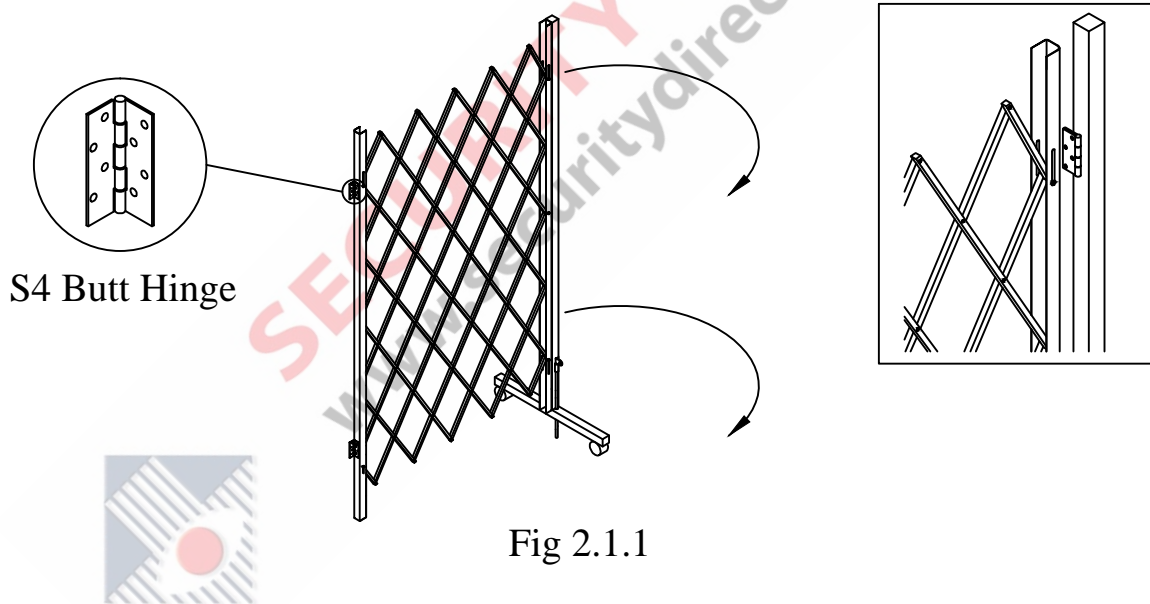

Fig 2.1.1
2.1.1 Where a Trolley system is being fixed to either one wall or 2 walls in the case of either a single or Bi-parting application, the S4 Butt hinges supplied with the Diamond door sash can be fixed directly to the channel of the grille and then onto the existing wall. (Ensure that when fitting the hinges, the trolley system can swing in the correct direction required!). - Fig 2.1.1